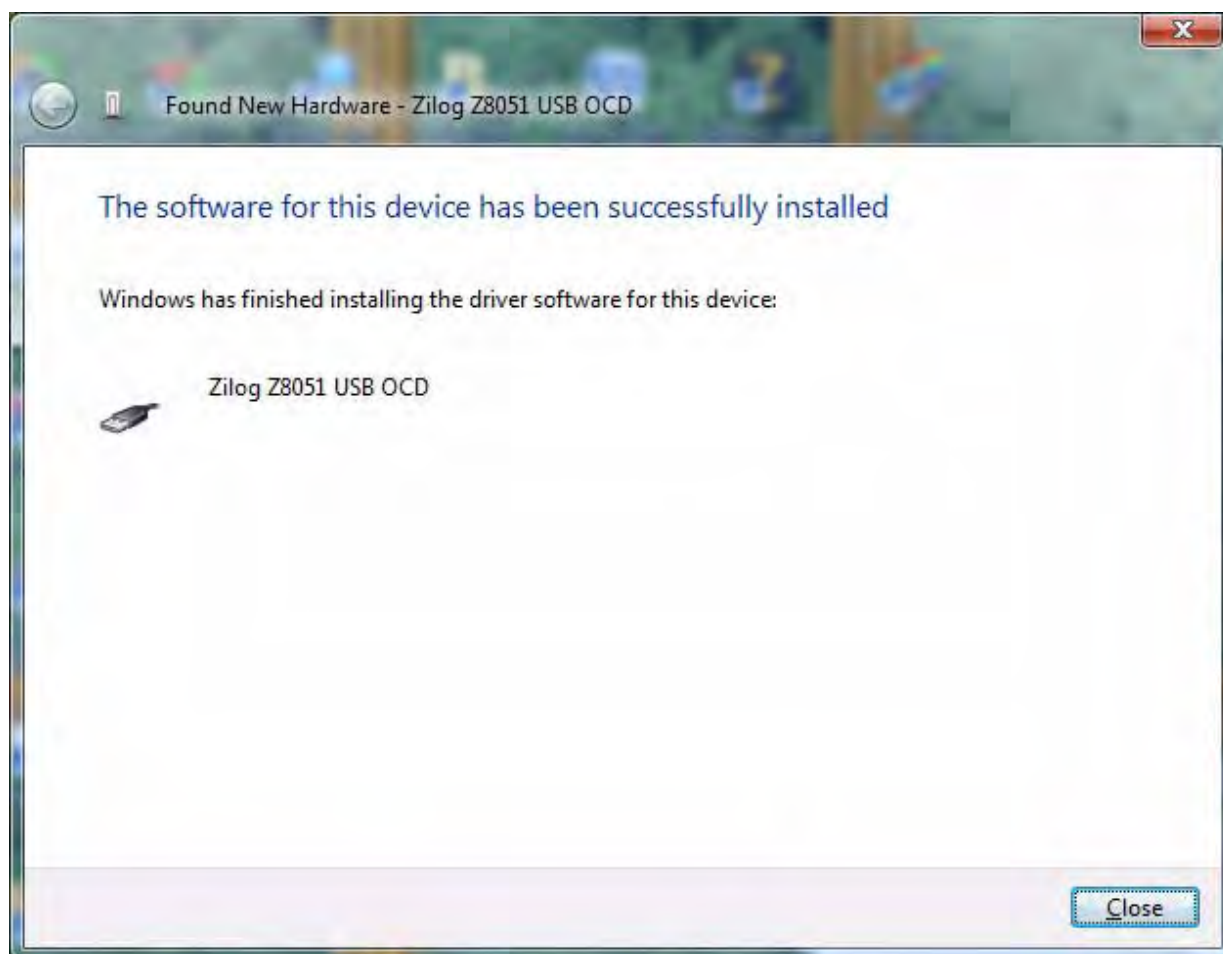

Figure 5. Successfully Installed Dialog, Windows Vista
5. When the installation is complete, the screen shown in Figure 5 will appear. Click **Close** to exit the OCD driver installation.
► **Note:** On some installations, the Found New Hardware screen shown in Figure 5 may also display the text string, Zilog Z8051 USB OCD - No Firmware. This occurrence is normal and can be disregarded.